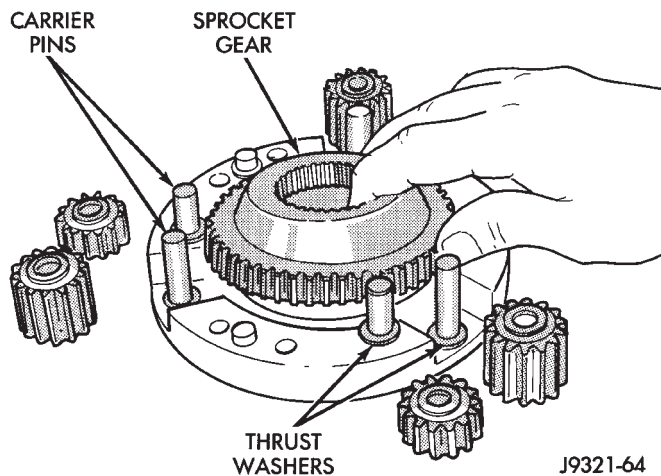

Fig. 69 Sprocket Gear And Thrust Washer Installation
(1) Lubricate pins on front carrier (Fig. 69) with transmission fluid or petroleum jelly.
(2) Install first set of thrust washers on front carrier pins (Fig. 69).
(3) Install sprocket gear in front carrier (Fig. 69).